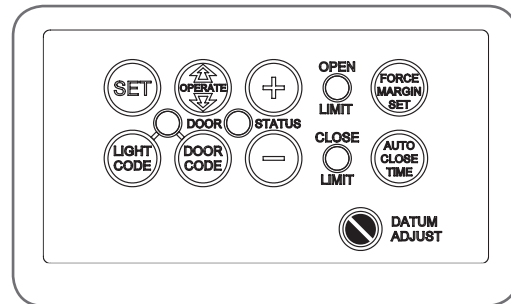

fig 25
1. Open the door by pressing the Yellow Operate button (Fig. 25).
1. Press and hold the Force Margin Set button (Fig. 25)
fig 25 a
1. Press and hold the Force Margin Set button (Fig. 25).